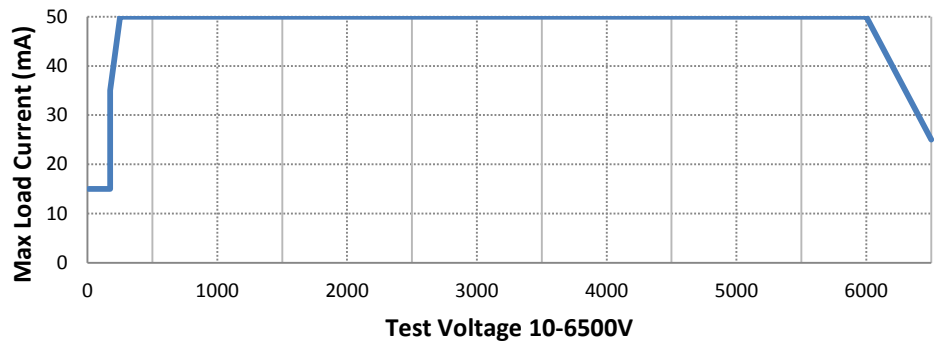
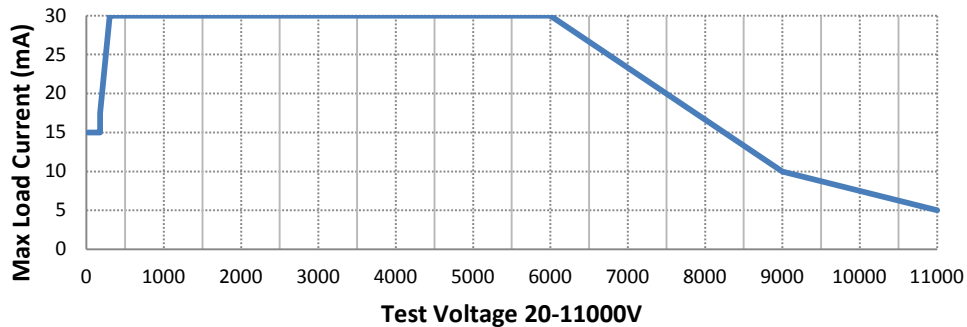

Figure 15 - 951i, 952i, 956i Test Voltage and Loading Capability (DC)
Figure 16 - 953i, 954i, 955i Test Voltage and Loading Capability (DC)
- Choose a maximum charging current according to the application and within the ability of the specific 95x model and option content (See Figure 15 - 951i, 952i, 956i Test Voltage and Loading Capability \(DC\) and Figure 16 - 953i, 954i, 955i Test Voltage and Loading Capability \(DC\)).